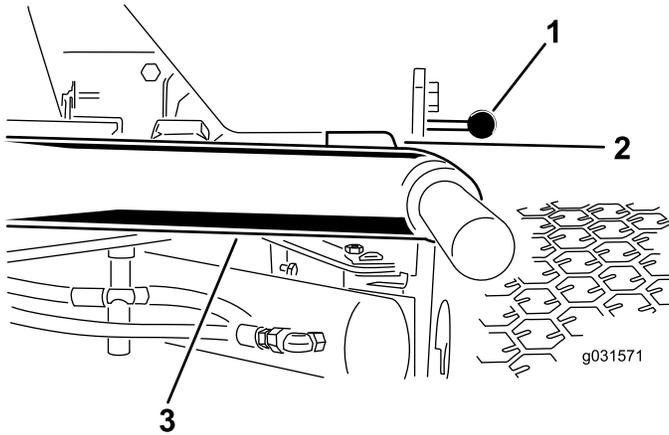

Figure 6
1. Start the engine, raise the cutting units, and ensure that the clearance between each lift arm and the floor-plate bracket is 5 to 8 mm (0.18 to 0.32 inches) as shown in Figure 6.